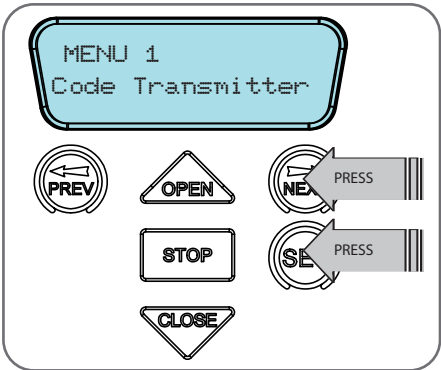

Fig G.1
- a. Press NEXT to navigate to Menu 1 (Fig. G.1).